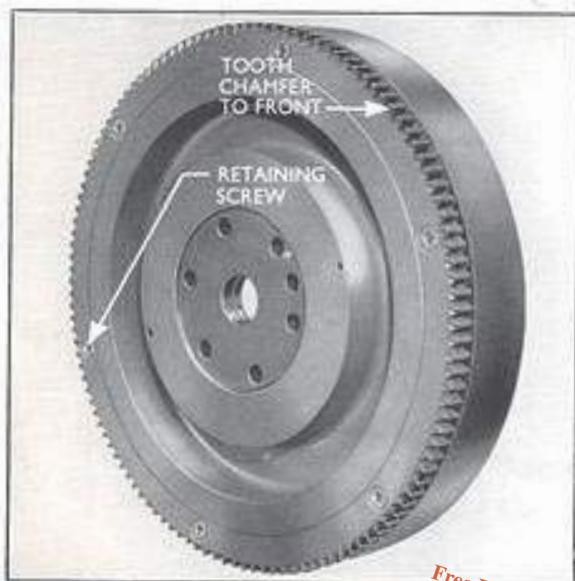

Fig. 17
3. Fit a new ring gear with the lead-in on the teeth to the front of the flywheel and retain in position with six screws and lockwashers (see Fig. 17).